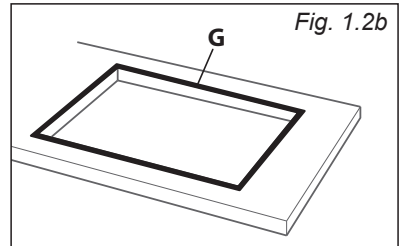

Fig. 1.2b
- Stretch gasket “G” over the edge of the hole made, being careful to overlay the junction edges (fig. 1.2b).